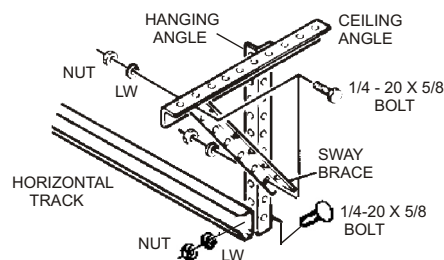

FIGURE 9-4
12. Cut sway braces from perforated angle (not supplied) and install using hex head bolts (not supplied). (See Figure 9-4)